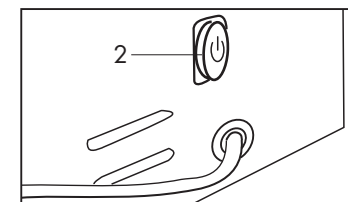

Fig. 4
- Switch on the machine with the main switch (2). **(Fig. 4)**